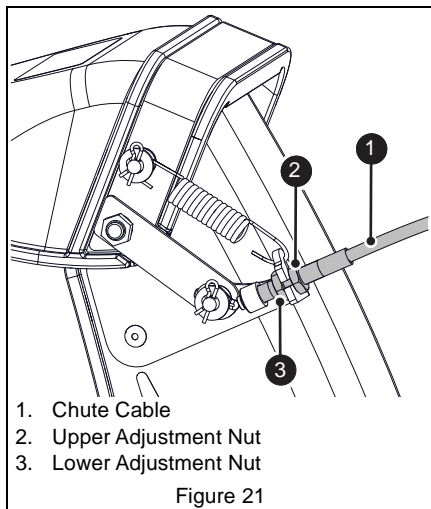

Figure 21
2. Adjust nuts on chute cable. See Figure 21.